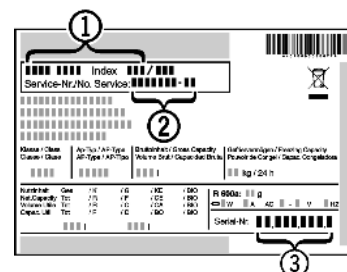

Fig. 3
- ▶ Read the appliance designation *Fig. 3 (1)*, service No. *Fig. 3 (2)* and serial No. *Fig. 3 (3)* off the type plate located inside the appliance on the left-hand side.
- ▶ Notify the customer service, specifying the fault, appliance designation *Fig. 3 (1)*, service No. *Fig. 3 (2)* and serial No. *Fig. 3 (3)*.